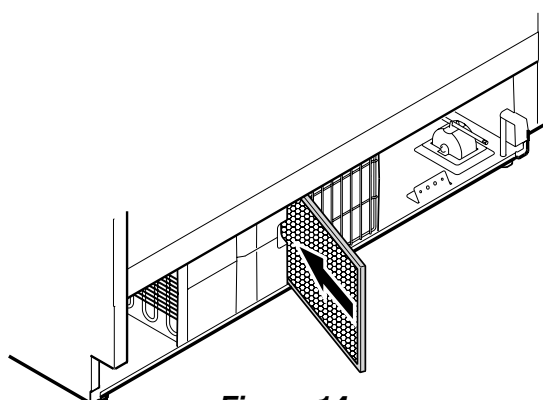

Figure 14
Mounting the ventilation grille - Figure 14, 15
2. Remove the blue protection film from the dust filter provided and insert the filter into its opening in the toe kick area as shown in Figure 14.